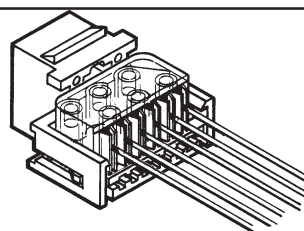

Figure 6
5. Inspect jack assembly to ensure that cap is fully seated and all wires are terminated (Figure 6).